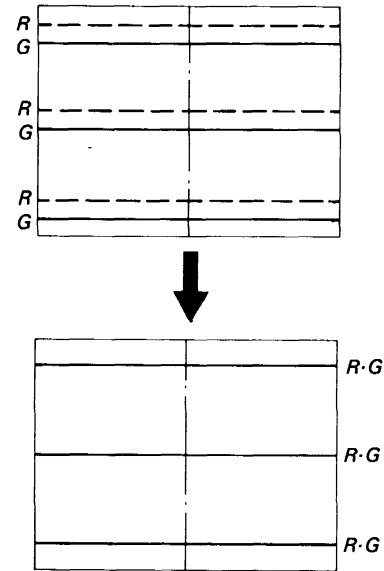

Fig. 3-31
- (7) Adjust RV5521 (V CENT (R)) to converge the red horizontal lines and the green horizontal lines in the middle screen as shown in Fig. 3-31.